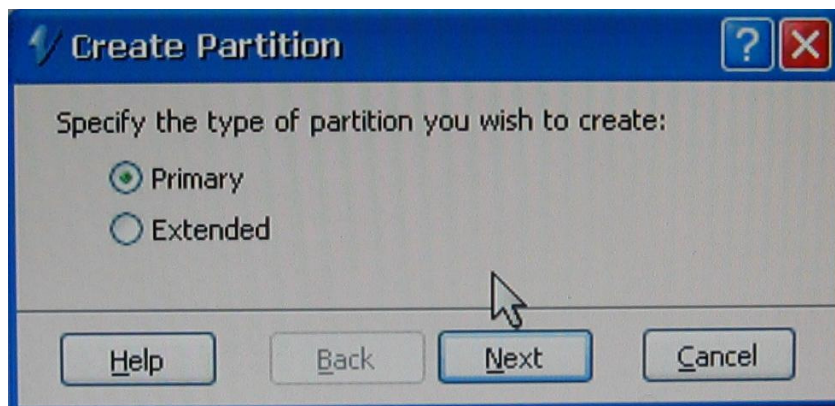

Figure 4-7 Primary Partition labeling
3. Select 'Primary' and click 'Next' which will bring up the 'Create Primary Partition' window as illustrated in Figure 4-7.